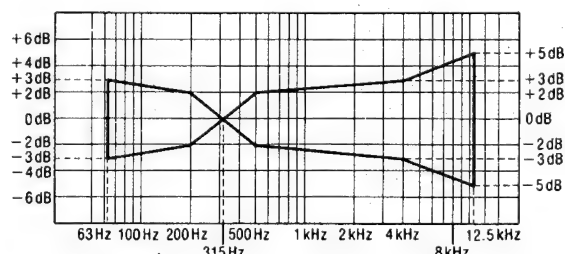

Fig. 5
2. Assure that the frequency response is within the range shown in Fig. 5 for both L-CH and R-CH.